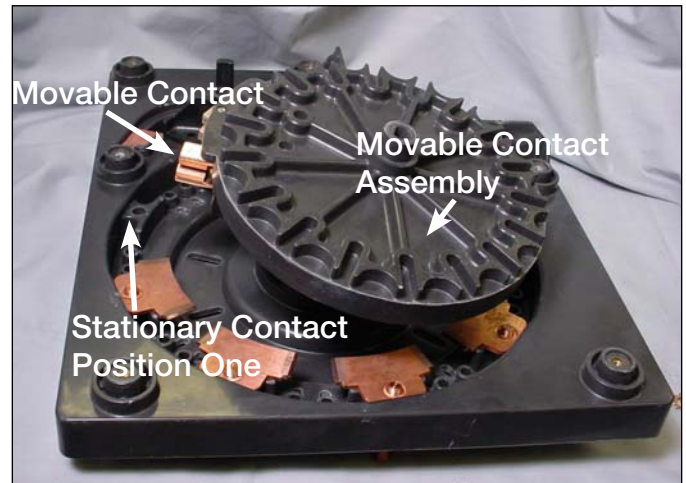

Figure 26.
- Align the Movable Contact and Geneva Gear Assembly so that the movable contacts align to where the number one stationary contact has been removed. See Figure 26.